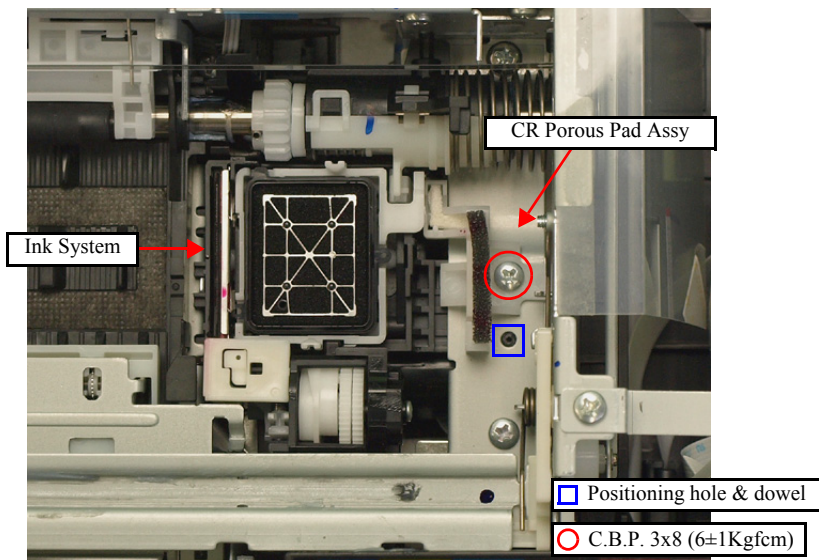

Figure 8-22. Removing the Ink System (1)
4. Align the dowel of the Ink System with the positioning hole on the Main Frame. (See Fig. 8-22.)